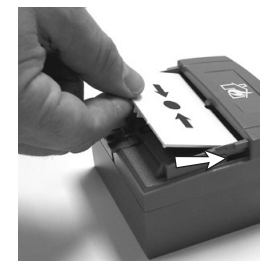

Figure 6
8. Now re-install the white element, yellow edge uppermost (see Figure 6). Replace the bottom housing by lining up the two notches and carefully pushing it flat - this should leave it about 10mm below the bottom edge.